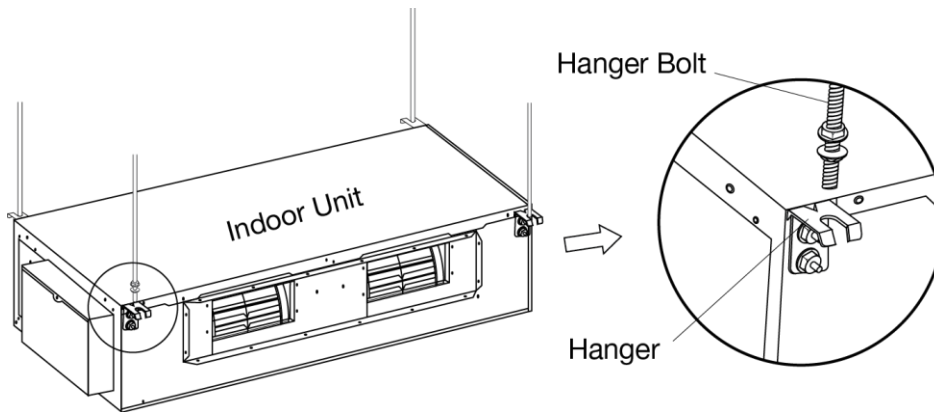

Fig. 5
3. Install the hanger to the unit (Fig. 5).